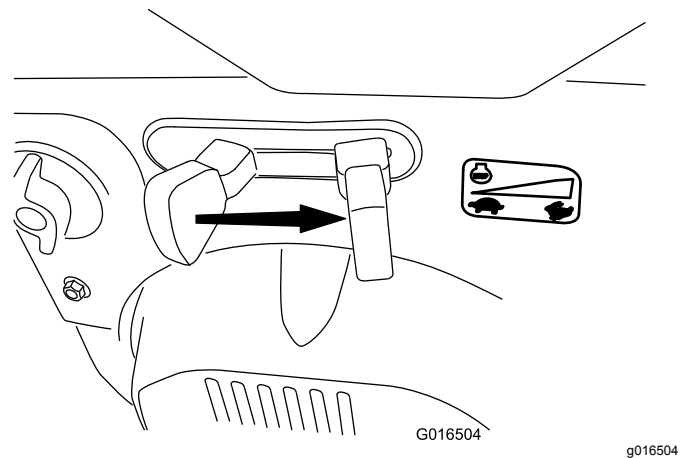

Figure 24
6. Move the throttle to the FAST position (Figure 24).